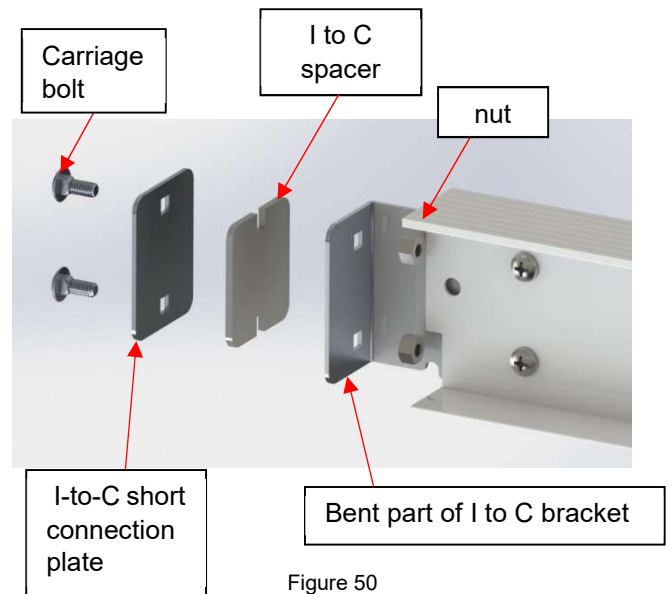

Figure 50
- 4) For models ranging from **12' to 15'**, you will need to install **one** I-beam with **two short** I to C short connection plates per I-beam. (Figure 50)
- ♦ Use 1/4-20 x 5/8" carriage bolts, 1/4-20 nuts and 7/16" (11 mm) socket wrench and spanner. Insert the I to C spacer in between the I to C connection plate and the bracket. The carriage bolts and nuts can now be properly tightened. (Figure 50).
- 5) For models ranging from **16' to 20'** you will need to install **three** I-beams with **two short** I to C connection plates per I-beam (Figure 50).